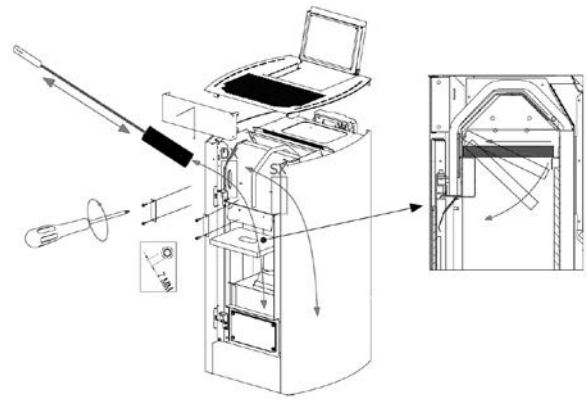

Fig. 87 - Cleaning
- Remove the upper deflector (see **Fig. 87**), vacuum any ash and clean the internal combustion chamber walls.